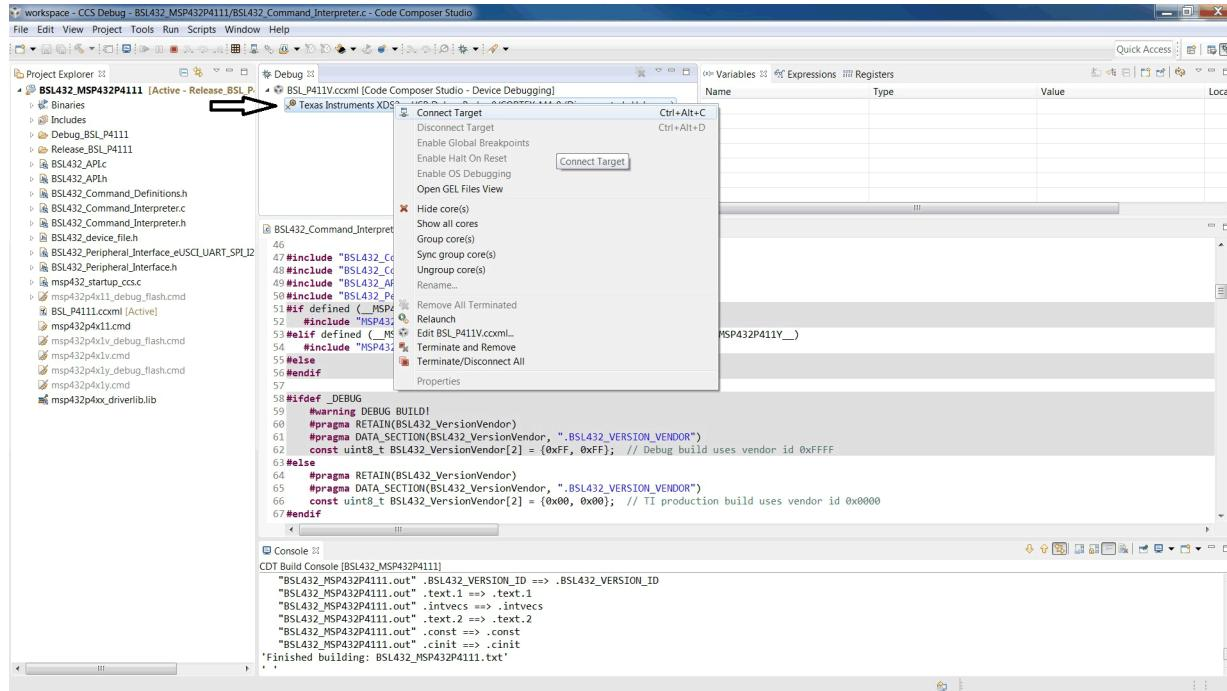

Figure 15. Connect Target
6. The *Debug* window opens. Right-click on the XDS200 connection and select *Connect Target*. Next, click the *Pause* sign on the taskbar (see Figure 15).